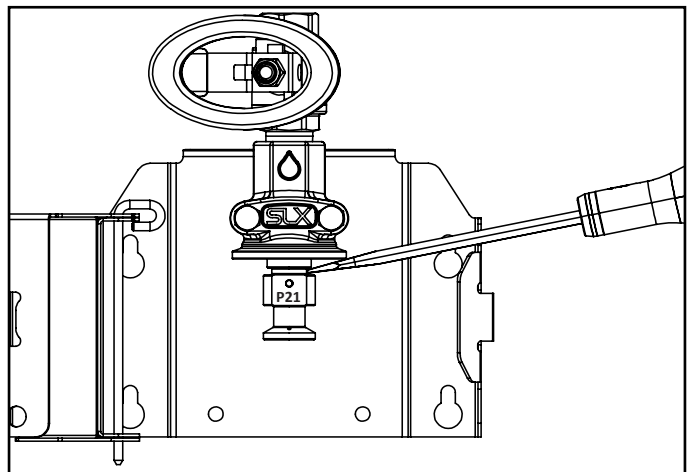

Fig. 7.2: Insert removal using screwdriver
- A screwdriver can be used to pry the insert out if necessary [Fig. 7.2]